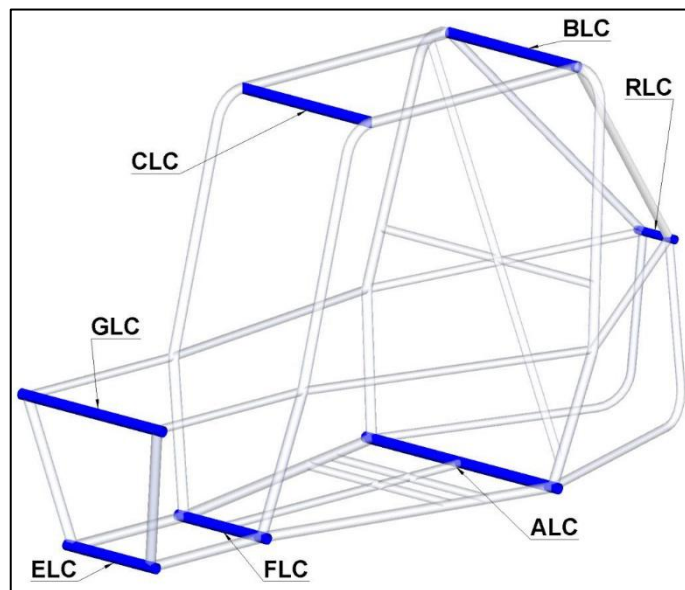
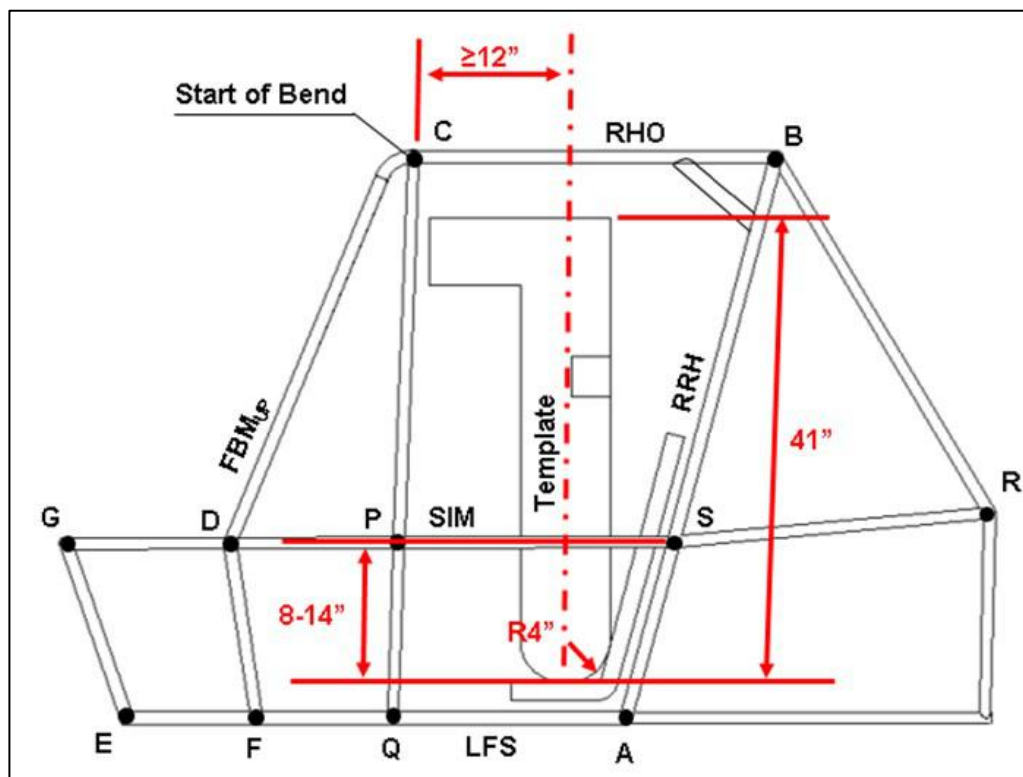
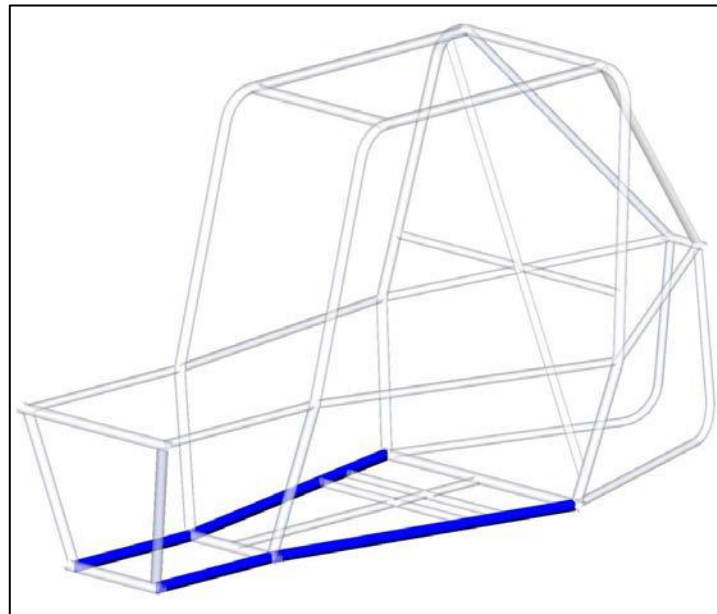
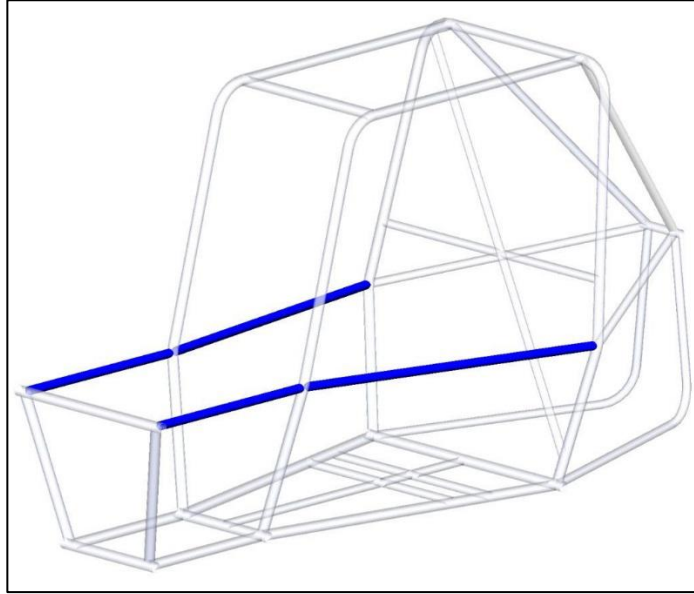

Figure B-8: Roll Cage, LC
Figure B-14: Roll Cage, Template Installation
Figure B-17: Roll Cage, LFS
Figure B-18: Roll Cage, SIM
The two Lower Frame Side members define the lower right and left edges of the roll cage. These members are joined to the bottom of the RRH at Point A and extend generally forward, at least as far as a point forward of every driver’s heels, when seated in normal driving position. The forward ends of the LFS members are joined by a lateral cross member, FLC (Figure B-8). The intersection of the LFS members and the FLC define the points FR and FL. In ‘Nose’ designs, as shown in Figure B-17, the LFS extends forward to Point E, and is joined by a lateral cross member FLC and ELC (Figure B-8).
The two Side Impact Members (SIM) define a horizontal mid-plane within the roll cage. These members are joined to the RRH, defining Point S, and extend generally forward, at least as far as a point forward of every driver’s toes, when seated in normal driving position. The forward ends of the SIM members are joined by a lateral cross member, DLC. The intersection of the SIM and DLC define the points DR and DL. The SIM members must be between 203 mm (8 in.) and 356 mm (14 in.) above the inside seat bottom (Figure B-14) at all positions between points S and D. In ‘Nose’ designs, as shown in Figure B-18, the SIM extends forward to Point G, and is joined by a lateral cross member GLC (Figure B-8). In this case, DLC may be omitted if GLC provides adequate protection for the driver’s toes as noted below.
- 1) The two LFS members must be joined by the Under Seat Members. The USM must pass directly below the driver where the template in Figure B-14 intersects the seat bottom.
- 2) The ALC and FLC members must be joined longitudinally by the Under Seat Member. The USM must and pass directly below the driver where the template in Figure B-14 intersects the seat bottom.